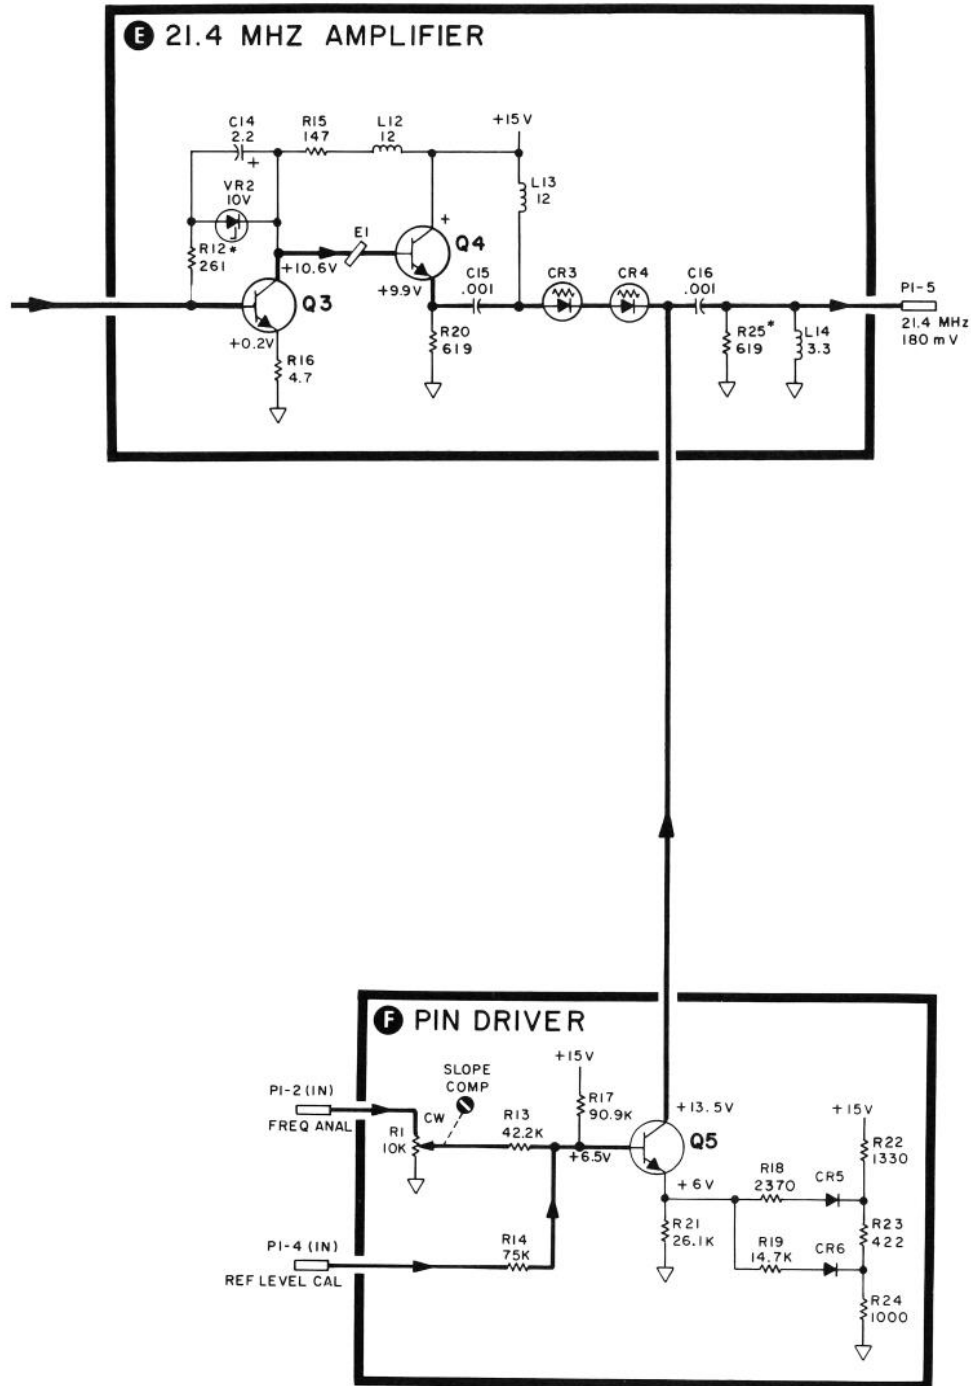

FIGURE 7-10. P/O A9 THIRD CONVERTER AND A10 SECOND IF ASSEMBLIES, SCHEMATIC DIAGRAM
1926A prefixes and 1914A with suffixes Replace function blocks (E) and (F) with function blocks (E) and (F) shown in Figure 7-10, included in this Manual Backdating supplement.